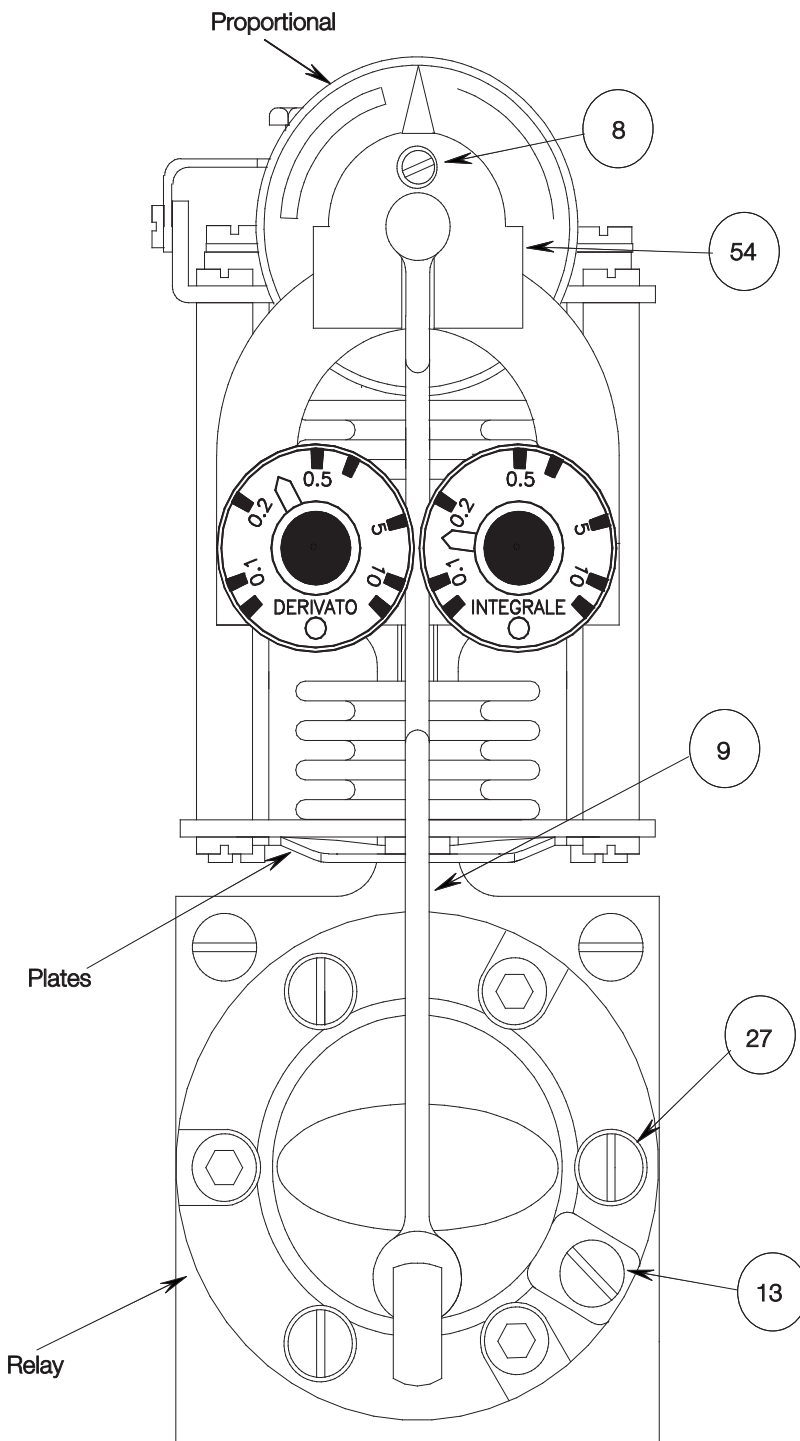
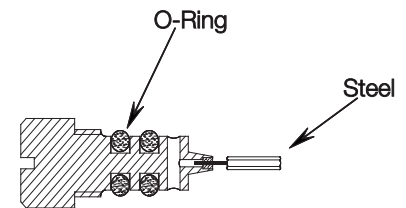
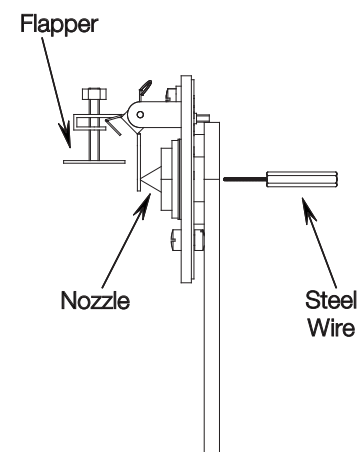

Fig. 6.1.1
Fig. 6.1.2 - Nozzle cleaning
Fig. 6.2.2 - Flapper-nozzle cleaning
Remove the screw (13) (see Fig. 6.1.1) and clean, as shown in Fig. 6.1.2, by means of the supplied steel wire situated inside the instrument. If the capillary orifice is obstructed, clean it with a bath in trichloroethylene and a blow of compressed air. Before fastening the screw (13), we recommend lubricating the O-rings by applying a coat of silicone lubricant.
Unscrew the screw (8) (see Fig. 6.1.1). Remove the dial (54), the tube (9) and clean, as shown in Fig. 6.2.2, by means of the supplied steel wire situated inside the instrument. During this operation keep the oscillating plate away from the nozzle, to avoid scratching it. Before mounting the tube (9), we recommend lubricating the O-rings by applying a coat of silicone lubricant